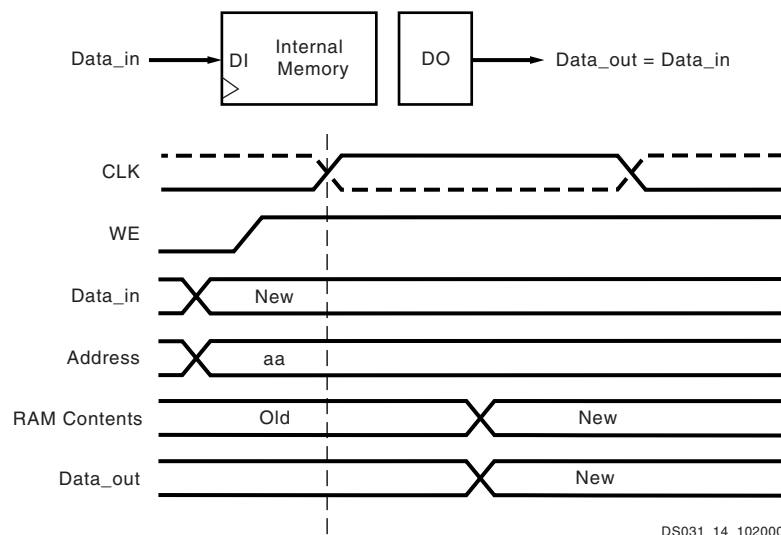

Figure 30: WRITE_FIRST Mode
The "WRITE_FIRST" option is a transparent mode. The same clock edge that writes the data input (DI) into the memory also transfers DI into the output registers DO as shown in Figure 30.